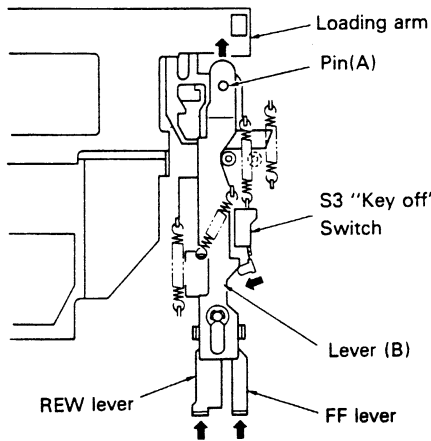
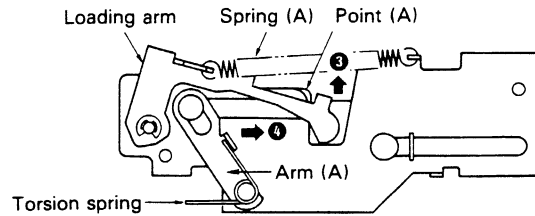

Fig. 16
Fig. 18
1. The cassette tape is ejected by simultaneously pressing the FF and REW levers. This causes lever (B) to move as indicated in Figure 16, switching the "key off" switch to the "off" position, and deactivating the "key off" solenoid. When this solenoid is deactivated, the tape heads, pinch rollers, and so forth retracted from the tape. Details concerning this action are set forth in the section entitled "Play Mechanism," below.
3. When the FF lever and REW lever are depressed simultaneously, pin(A) (Figure 16) is pushed against the loading arm, starting the action shown in Figure 18 (the opposite action from that described in the section entitled "Cassette Loading," above). The loading arm then rotates at its fulcrum in the direction indicated by arrow ③ (Figure 18). When the loading arm has rotated to point (A), torsion spring causes arm (A) to move in the direction of arrow ④. This, in turn, causes the cassette guide to eject the cassette.